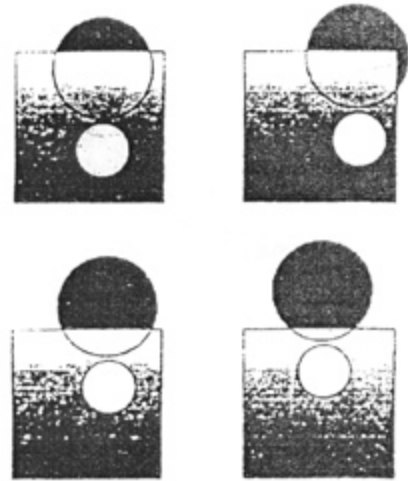

Figure4-Position Of Stop Block
- Step 4: The STOP BLOCK must be positioned in one of four ways. See Figure 4. Always position the STOP BLOCK so that it is as close as possible to the center DIE. while still allowing for the thickness of the stock.